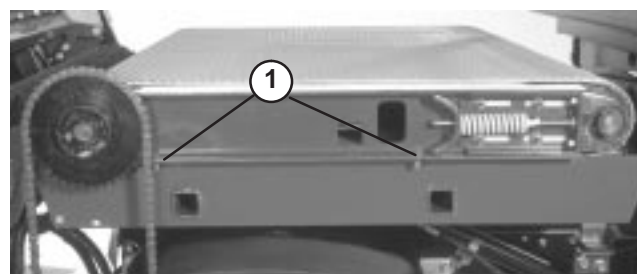

Figure 29
- 6. Loosen (2) capscrews, washers and nut, on right side of machine, securing slider bed to frame (Fig. 29). Make sure fasteners are loose enough to allow slider bed to be tipped.